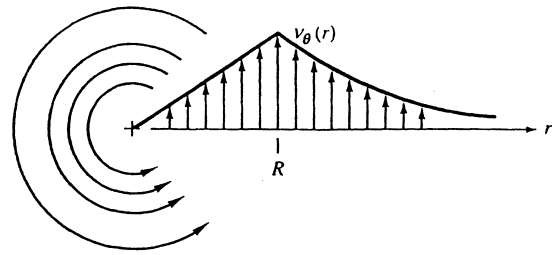

Fig. P8.14
**8.14** A tornado may be modeled as the circulating flow shown in Fig. P8.14, with  $v_r = v_z = 0$  and  $v_{\theta}(r)$  such that
**8.15** A category-3 hurricane on the Saffir-Simpson scale ([www.encyclopedia.com](http://www.encyclopedia.com)) has a maximum velocity of 130 mi/h. Let the match-point radius be  $R = 18$  km (see Fig. P8.14). Assuming sea-level standard conditions at large  $r$ , (a) find the minimum pressure; (b) find the pressure at the match-point; and (c) show that both minimum and match-point pressures are independent of  $R$ .